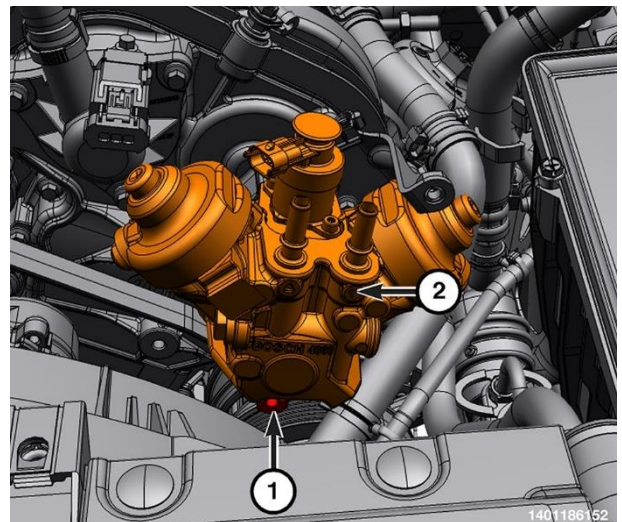

Figure 138 – HPFP Lower Bolt
- 78. Remove the lower bolt (1) from the HPFP (2) and remove it from the vehicle (Figure 138).
- 86. Install the lower fuel injection pump bolt (2) and hand tighten the bolt (1) (Figure 138).
- 88. Tighten the bolts (1) that secure the fuel injection pump to 25 N·m (18 ft. lbs.) (Figures 138 and 137).